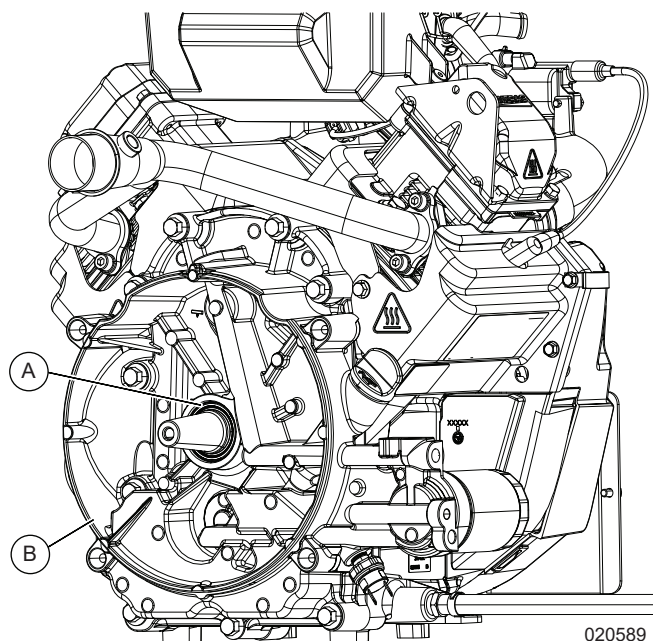

Figure 12-1. Install Oil Seal Into Gear Cover
1. See Figure 12-1. Press the crankshaft PTO oil seal (A) into the gear cover assembly (B) until oil seal is fully seated against bottom of bore.